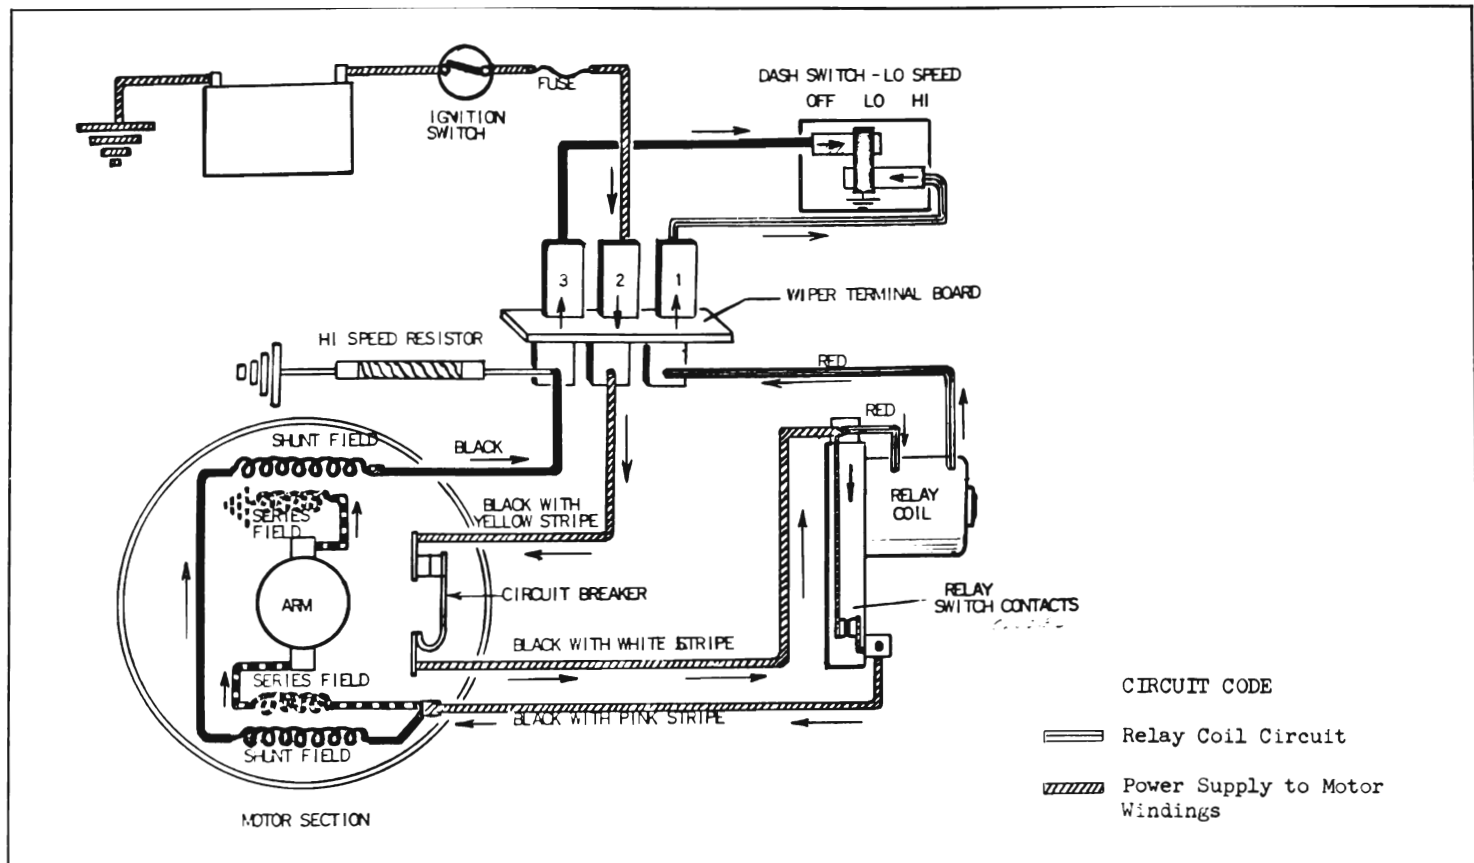

Figure 10-110—Wiring Diagram - Low Speed Operation
2. Wiper On Low Speed. When the owner turns the wiper on at the dash switch, the circuit through the relay switch assembly coil is completed to ground at the dash switch. The motor shunt field ground connection at the dash switch is maintained. See Figure 10-110. With the magnet coil energized, the latch arm is attracted to the magnet coil. This action trips the latch arm away from the flexible switch contact which allows the switch contacts to close. When the contacts close,